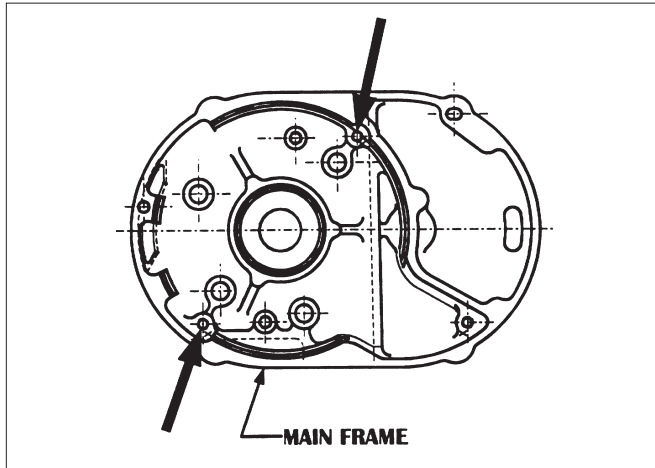
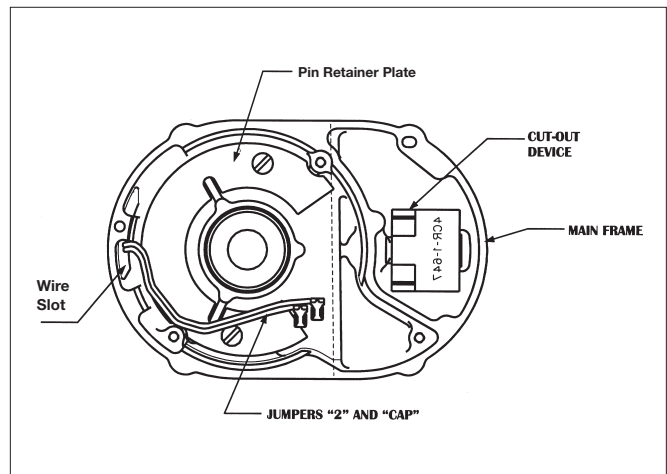

Figure 24 - Main Frame
Figure 25 - Stator Installation
9. To install the stator, (Refer to Figure 24) and make sure that the pin retainer plate has been assembled to the main frame. On single phase units slide jumpers "2" and "CAP" through the wire slot in the main frame. Route these wires around the rotor bearing boss in the main frame as shown in Figure 25. Attach the brown and blue stator leads and "2" jumper to cut-out device (refer to wiring diagram). Slide the cut-out device into the cavity as shown. Push the cut-out device down until it sets on the main frame. Place the capacitor on top of the cut-out device and attach "CAP" jumper and the yellow stator lead to it. Re-route jumpers "2" and "CAP", if necessary to make sure they clear the rotor bearing boss as shown in Figure 25. On all units slide stator leads through wire slot. Align the slots in the stator shell with the threaded holes in the main frame, as shown in Figure 24. With the leads down, slide the stator into the main frame. Slide the rotor, large bearing first, into stator. Place the rotor thrust washer on top of the exposed rotor bearing and then assemble the motor end cover to the main frame. Using wiring diagram, complete the wiring at the brake end of the unit.